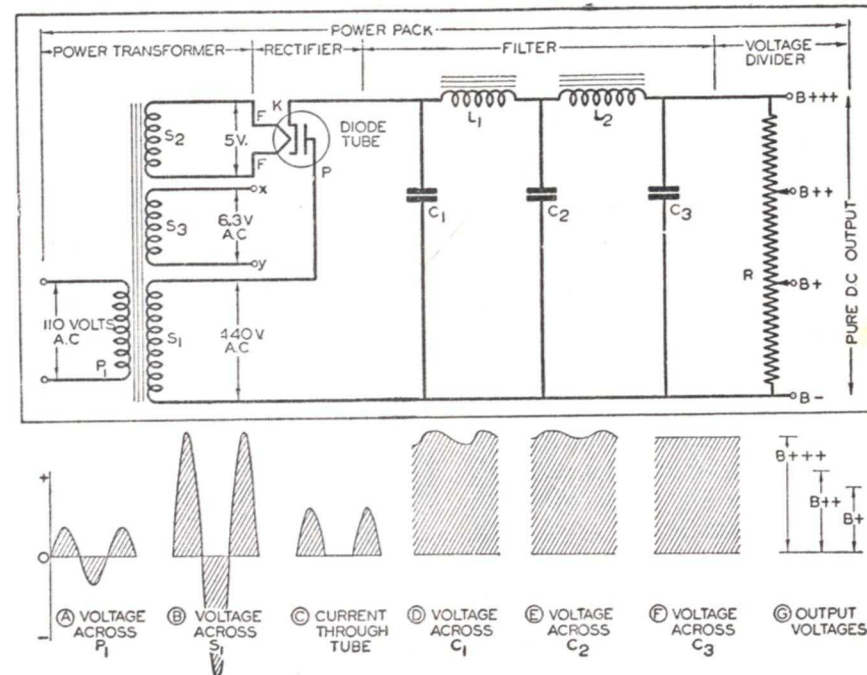

FIG. 26. A simple power supply using a diode tube as a rectifier.
► A basic power pack, similar to those used in superheterodyne receivers, is shown in Fig. 26. Let us learn a little more about the purpose of each part.
Thus, when 110 volts a.c. are supplied to primary P_1 in Fig. 26, secondary S_1 provides 440 volts a.c.; secondary S_2 provides 5 volts a.c. for the diode rectifier tube filament; secondary S_3 provides 6.3 volts a.c. across terminals x and y for the filaments of all other tubes in the receiver.
The Voltage Divider. The output voltage at C_3 may be too high for many of the tubes, so a resistor, having taps or terminals along it, is sometimes connected across the output of the filter to divide the d.c. voltage. The arrangement is shown in Fig. 26 and the voltage division is represented at *G*. It is customary, when a power pack has several output voltages, to mark B+ on the circuit diagram at the terminal which has the lowest positive voltage; the next higher voltage is indicated by B++, the next by B+++ , and so on.